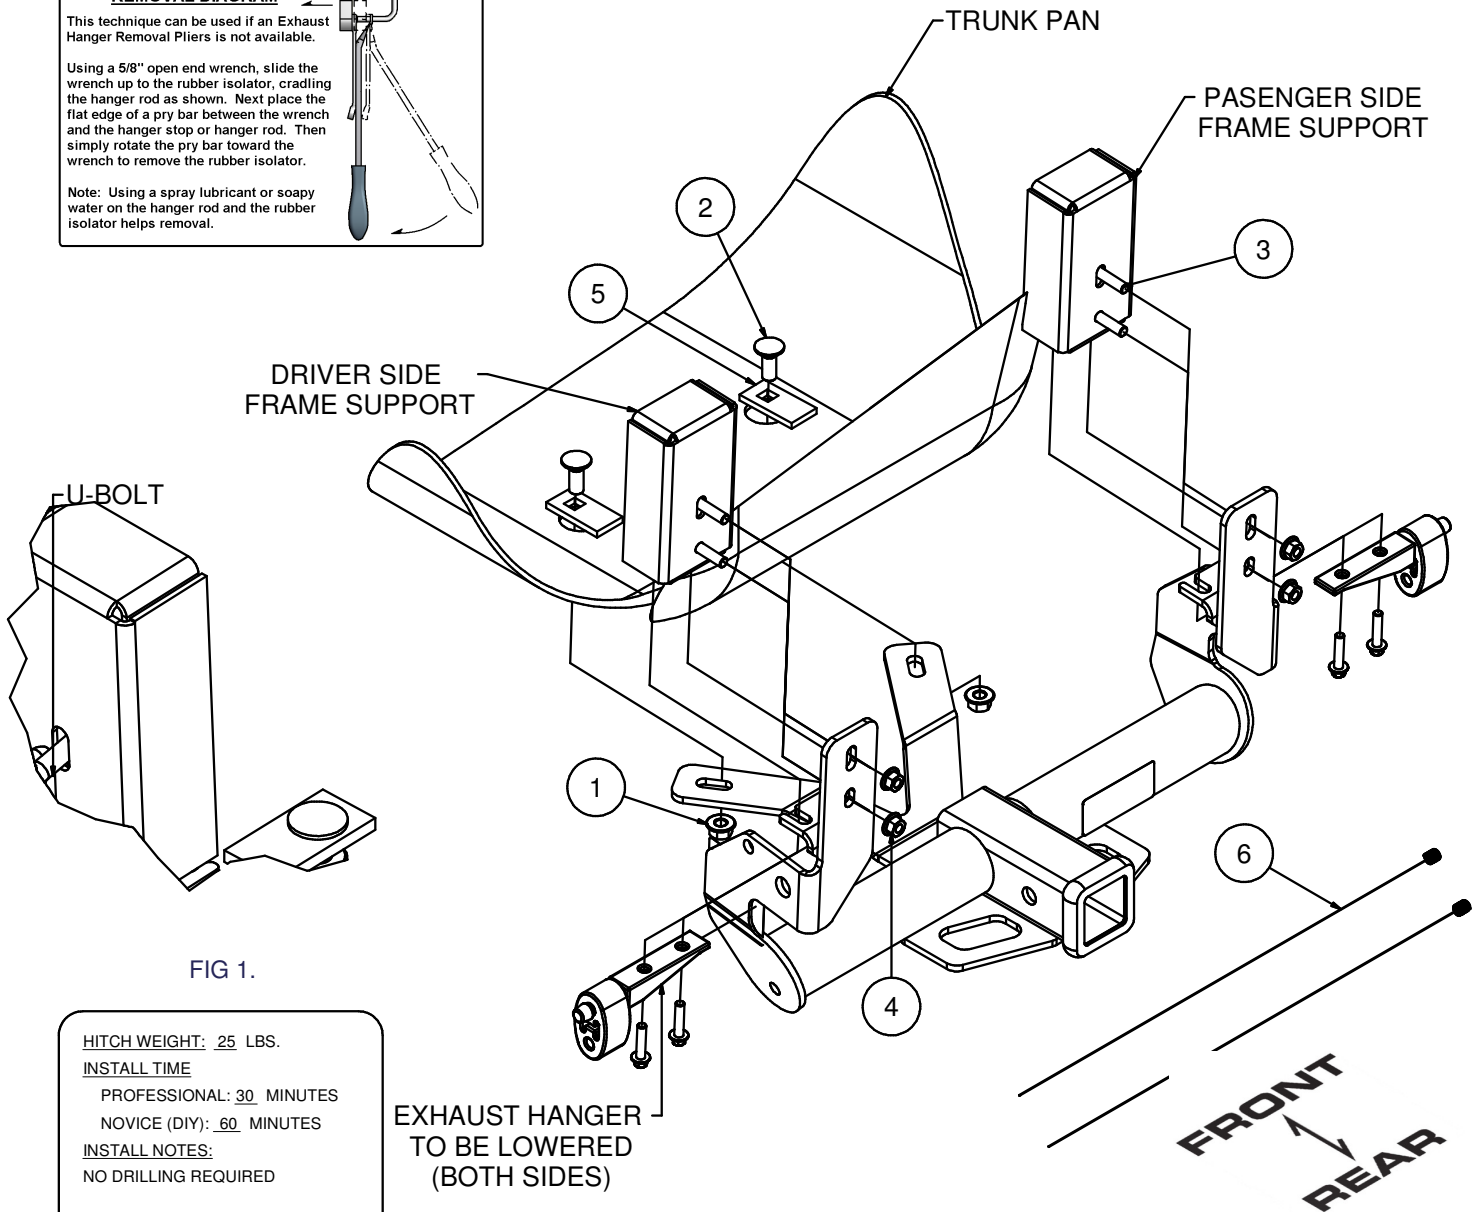

FIG 1.
5. Install the u-bolts in the frame rail support as shown in Fig 1. Resecure the exhaust bracket each side, clamping the hitch mounting strap between the frame support and the hanger bracket by replacing 8mm bolts removed in step 3.
1. Remove the bumper fascia by removing (4) T-20 Torx bit screws (2) from the trunk (1) from each wheel well, and disconnect (1) snap tab on each side from the bumper to the support strap.
2. Remove lower bumper fascia by lightly pulling along the snap groove, which spans the length of the bumper and disconnect (4) sensor plugs.
3. Lower the exhaust hanger from each side of the vehicle frame support by removing (2) 8mm bolts from each exhaust hanger bracket. Cut around the (2) trunk pan plugs and return to customer.